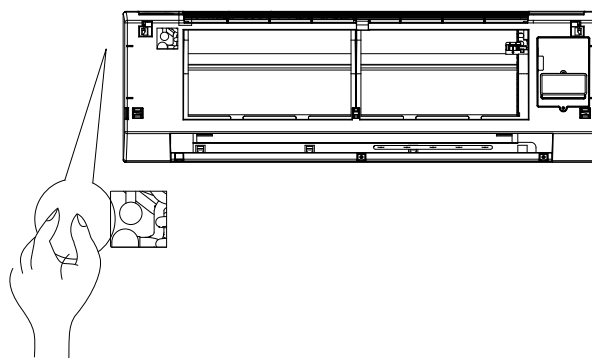

Fig.7-2
- 2 Individual connect the power cord and signal line, adjust the dial switch.(Refer to Fig 7-2)